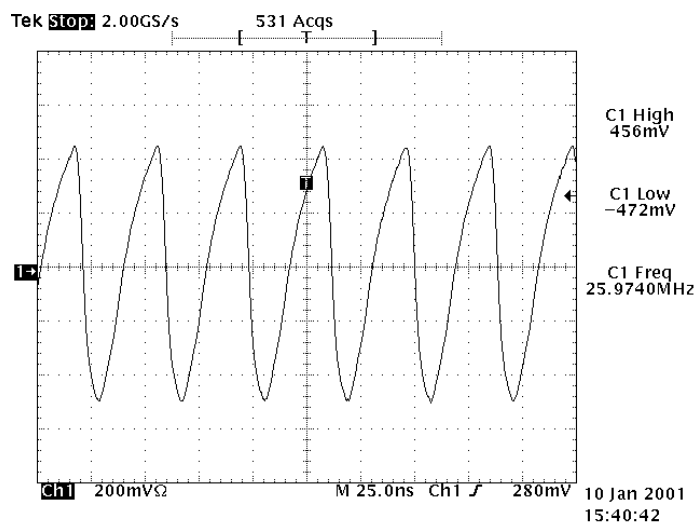

Figure 19. 26 MHz sine wave
2. Check VTCXO output at R833. This should be 26MHz sine wave (see Figure 19 ).